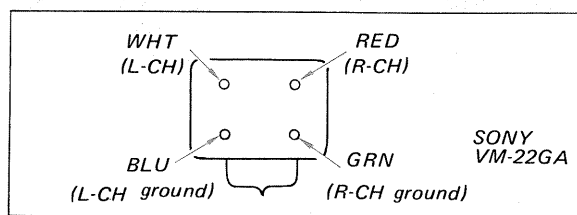

Fig. 2-6. Wiring diagram
3. Remove the old cartridge, and then install the replacement cartridge. Refer to the wiring diagram in Fig. 2-6, when reinstalling the cartridge.